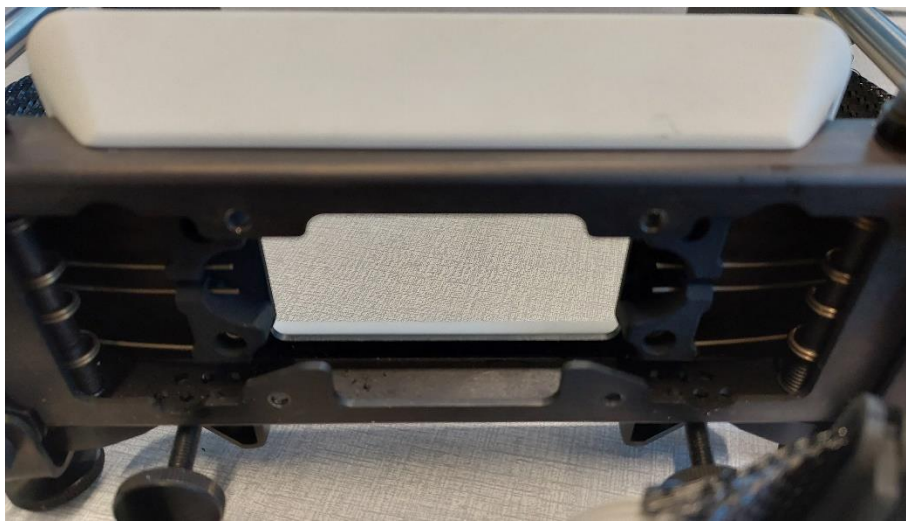

Figure 27. Removed back head pad.
8. Remove the back head pad (See Figure 27).